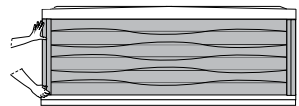

Figure 13.3a
2. Grab one of the corner panels, from the bottom, and gently pull the cabinet forward to unsnap it from the holding clip. Then slide it down to remove. Place the panel in a safe location to prevent from damaging it. Repeat the steps to remove the other corner panel, Figure 13.3a.